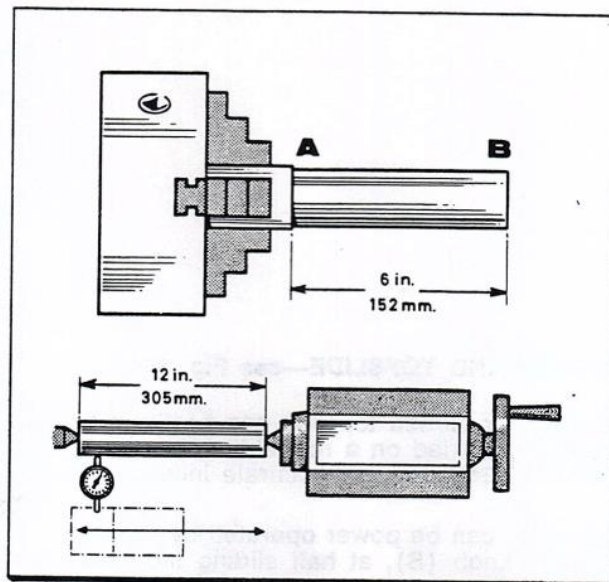

Fig. 17
**Headstock check:** Take a light cut with a keen tool over a 6 in. length of 2 in. dia. steel bar gripped in the chuck but not supported at the free end. Micrometer readings at each end of the turned length (at A and B of Fig. 17) should be the same.
**Tailstock check:** Using a 12 in. ground steel bar fitted between headstock and tailstock centres, check the alignment by fitting a dial-test indicator to the topside and traversing the center line of the bar (lower sketch, Fig. 17). To correct error release the tailstock clamp lever and adjust the two set-over screws provided. Continue with checking and correction until the alignment is perfect.